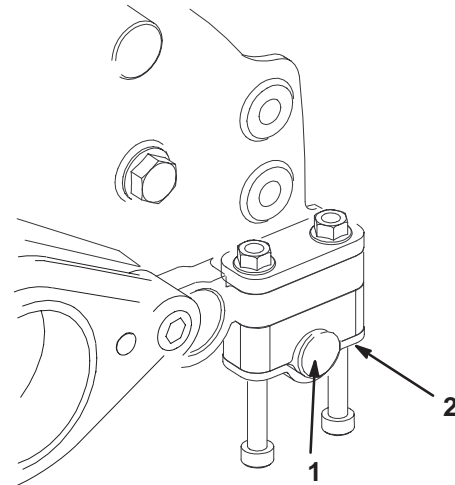

Figure 13
9. Install the rear roller (Fig. 13) as follows: